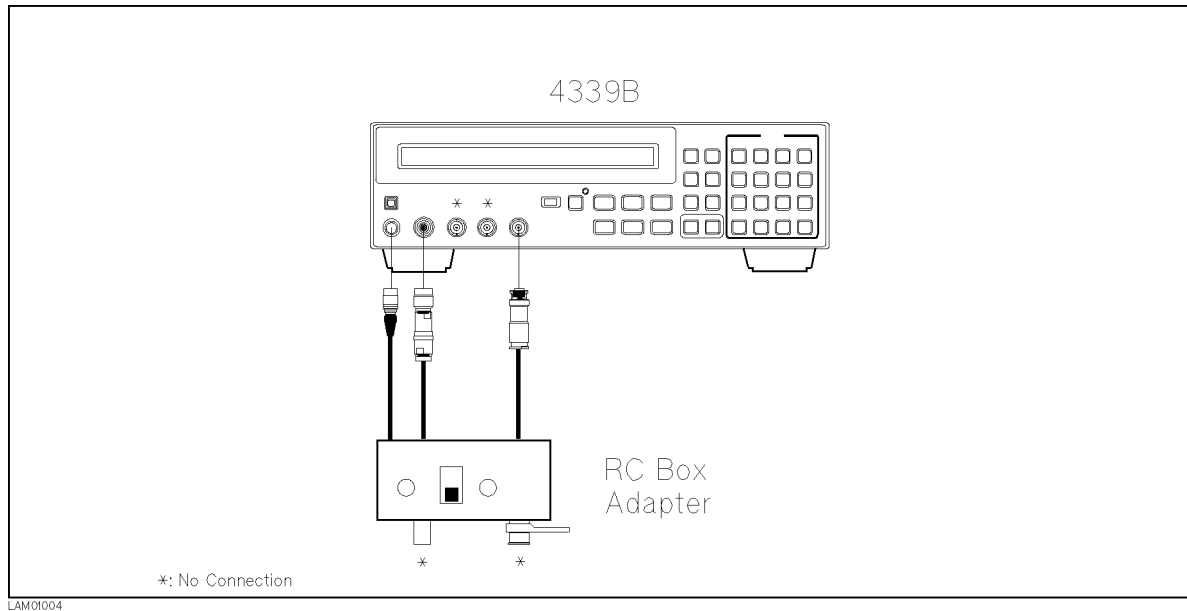

Figure 9-6. Resistance Measurement Accuracy Test Setup (Floating)
- Set up the equipment as shown in Figure 9-6.